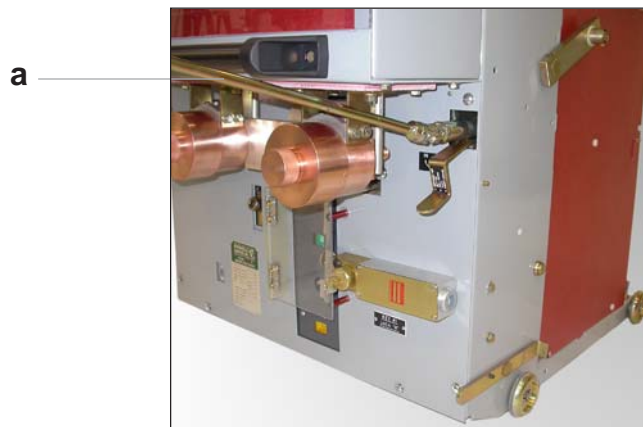

Figure 7. Insert the Racking Handle
4. Insert a PowlVac® racking handle onto the racking input shaft (Figure 6 and Figure 7).
5. Rack the G&T device into the **CONNECTED** position. Rotate the racking handle (Figure 7) clockwise until a positive stop is felt or the torque limiter of the racking handle operates.
10. Insert a PowlVac® racking handle onto the racking input shaft (Figure 6 and Figure 7).
5. Insert a PowlVac® racking handle onto the racking input shaft (Figure 7).